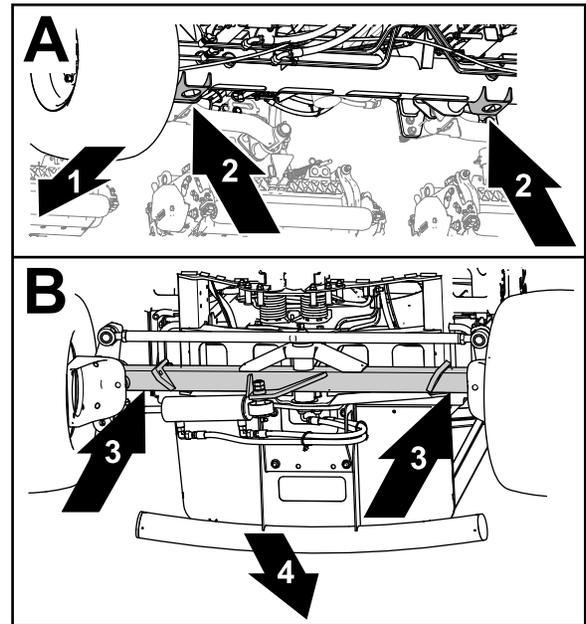

Figure 105
- Front—the jack brackets of the front-axle tube (Figure 105).